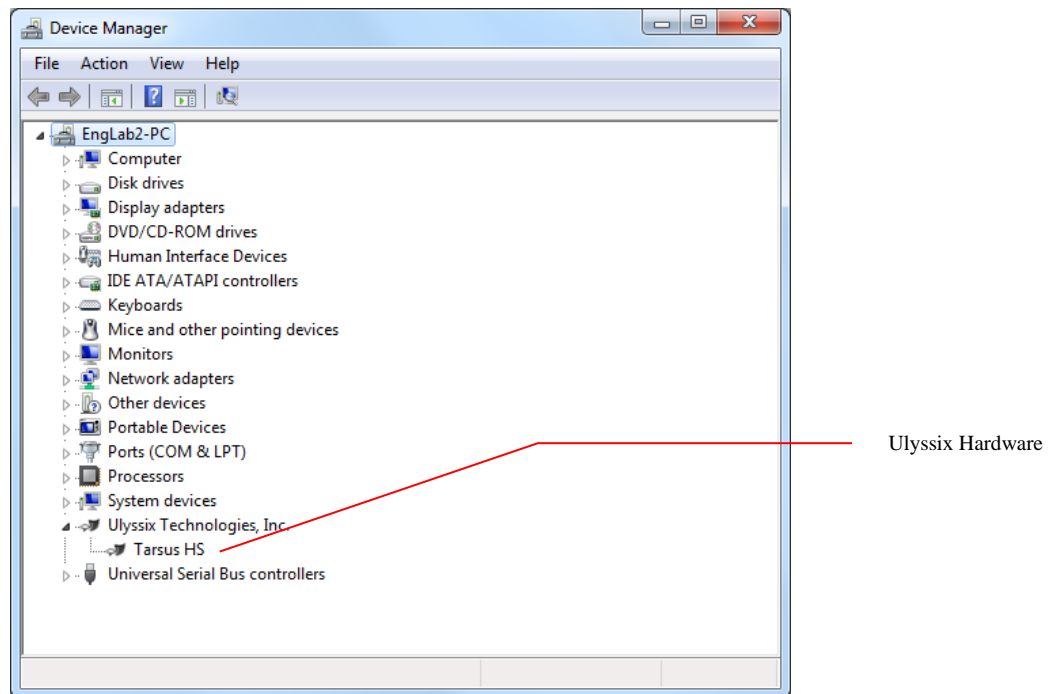

Figure 217 – Device Manager Ulyssix Driver
6. If your system is running the Ulyssix driver, open the Ulyssix Technologies, Inc folder in the hardware list. The display should look like **Figure 217 – Device Manager Ulyssix Driver**.